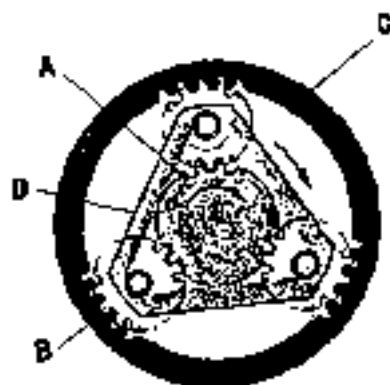

Fig. 2-11
When the ring gear is fixed, the rotation of the sun gear(A) is transmitted to the planetary gear(B). While planetary gear(B) is rotating at this time, its axis rotates around the sun gear(A) in the shown structure. The planetary gear(B) rotates in the same direction as the sun gear(A). (See Fig. 2-11).